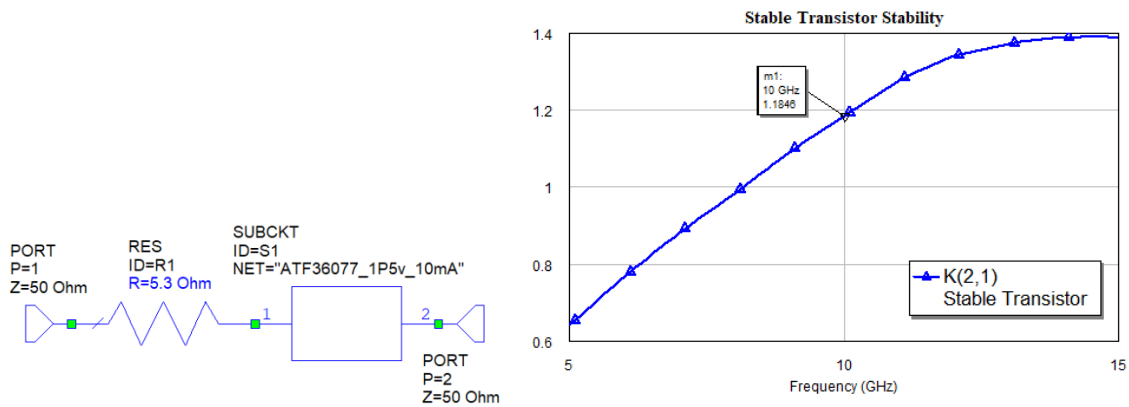

Fig. 14 Stabilized transistor with R1 resistor.
- Using TUNE TOOL, change the $R1$ value to set k in interval from 1.1 to 1.2 (not more) at the design frequency as shown in Fig. 14.